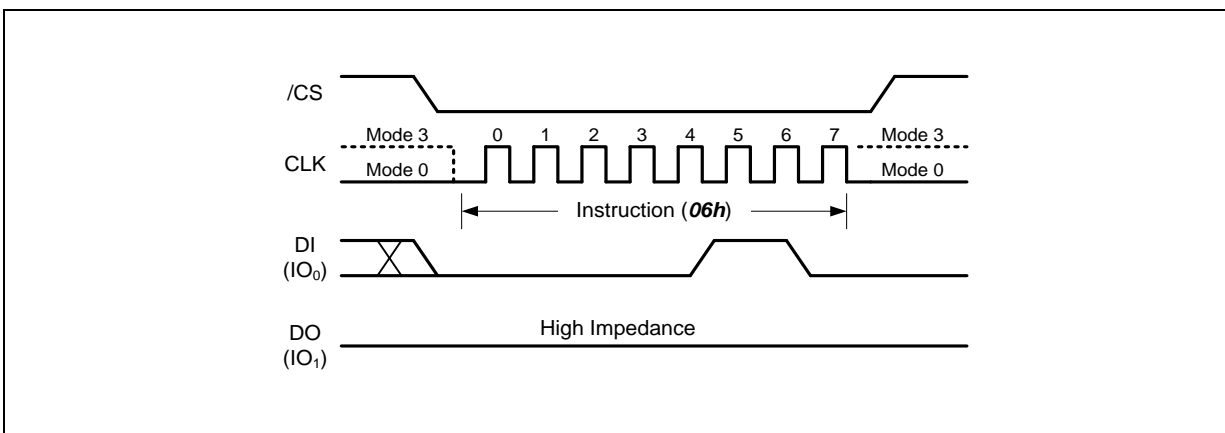

Figure 9. Write Enable Instruction
The Write Enable instruction (Figure 9) sets the Write Enable Latch (WEL) bit in the Status Register to a 1. The WEL bit must be set prior to every Load Program Data (02h/84h/32h/34h), Program execute and Block Erase instruction. The Write Enable instruction is entered by driving /CS low, shifting the instruction code "06h" into the Data Input (DI) pin on the rising edge of CLK, and then driving /CS high.